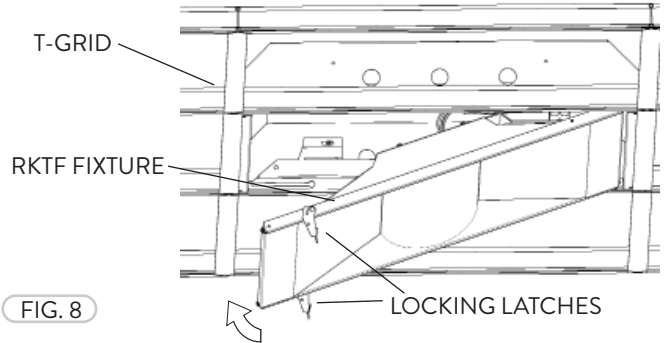

FIG. 8
- 6 Rotate the RKTF Fixture up towards the Brackets and T-Grid (Fig. 8).